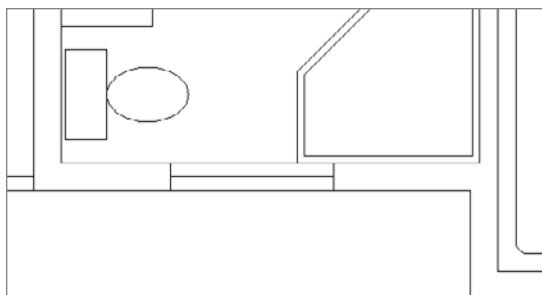

FIGURE 7.42 The new 3'-0" (915 mm) window in the bathroom
11. The window resizes to 3'-0" (915 mm) wide, as shown in Figure 7.42.